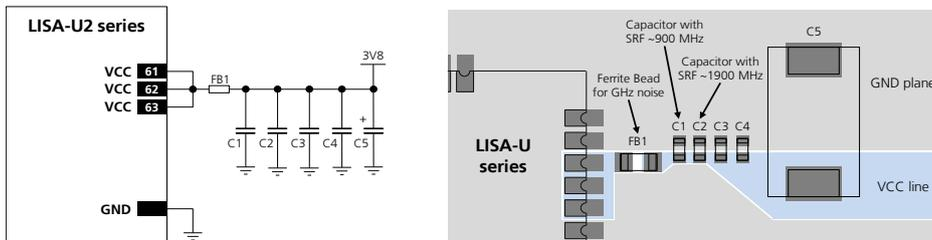

Figure 9: Suggested schematic and layout design for the VCC line; highly recommended when using an integrated antenna
- Ferrite bead for GHz band noise (e.g. Murata BLM18EG221SN1) as close as possible to the **VCC** pins of the module, implementing the circuit described in Figure 9, to filter EMI in all the GSM / UMTS bands.
- 68 pF capacitor with Self-Resonant Frequency in the 800/900 MHz range (e.g. Murata GRM1555C1H680J) at the **VCC** line where it narrows close to the module (see Figure 9), to filter EMI in lower bands
- 15 pF capacitor with Self-Resonant Frequency in 1800/1900 MHz range (e.g. Murata GRM1555C1H150J) at the **VCC** line where it narrows close to the module (see Figure 9), to filter EMI in higher bands
Figure 9 shows the complete configuration, but keep in mind that the mounting of each single component depends on the application design. It is highly recommended to provide the series ferrite bead and all the **VCC** bypass capacitors as described in Figure 9 and Table 10 if the application device integrates an internal antenna.